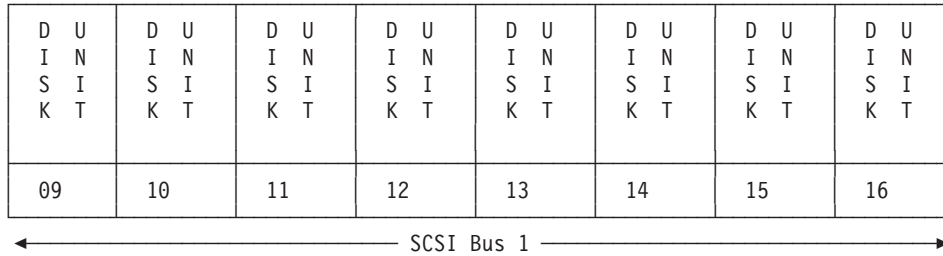

Figure 26. 16-Unit Disk Expansion Install Chart
24. Use the Figure 26 as a guide for installing disk units.